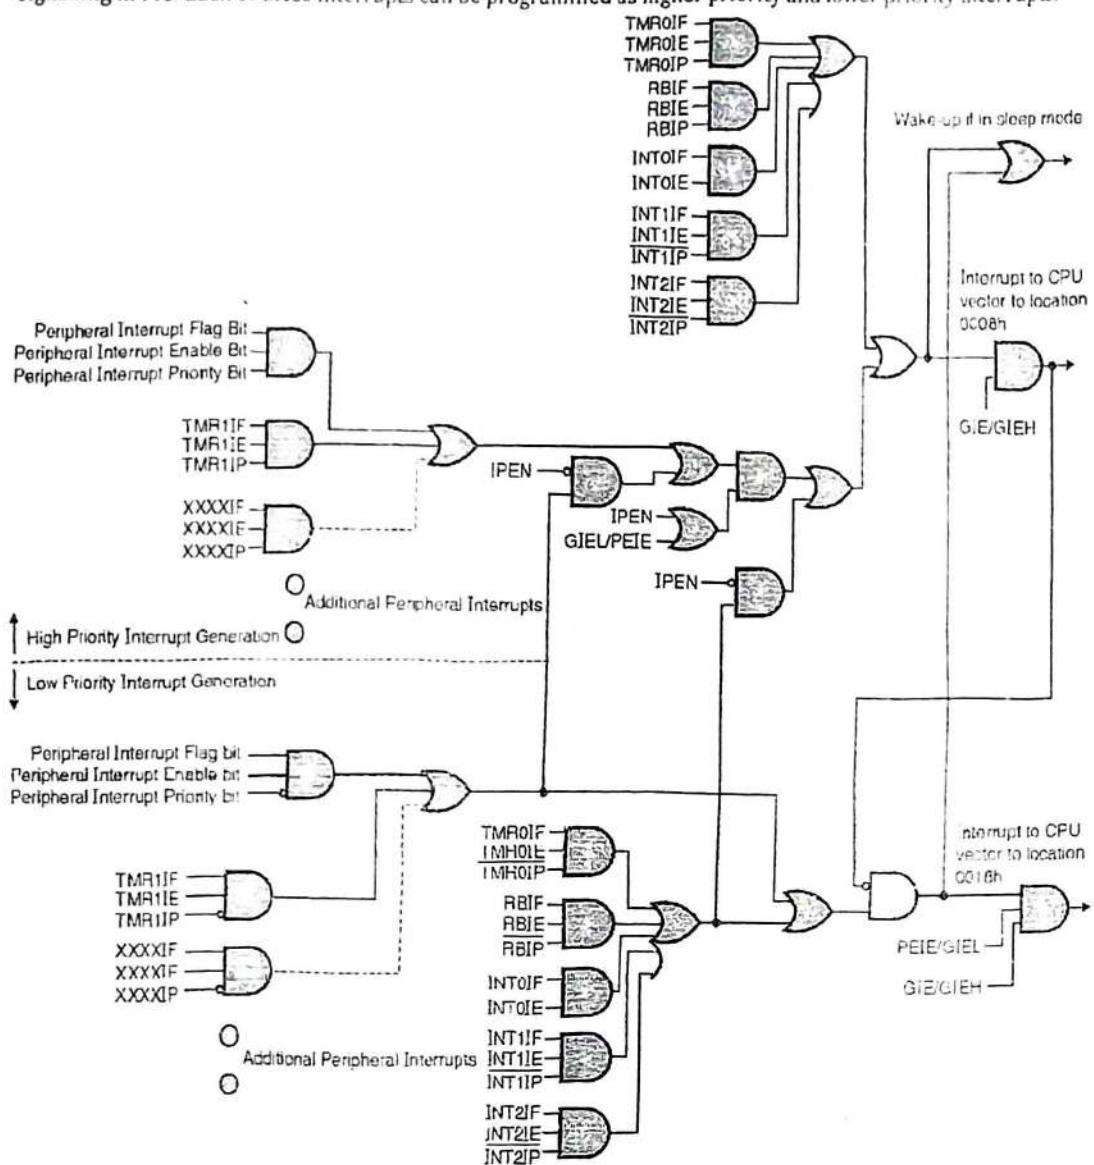

Fig. 6.2.1
- Besides these, there are many other interrupt sources in PIC. The gate diagram Fig. 6.2.1 resembles the interrupt signalling in PIC. Each of these interrupts can be programmed as higher priority and lower priority interrupts.